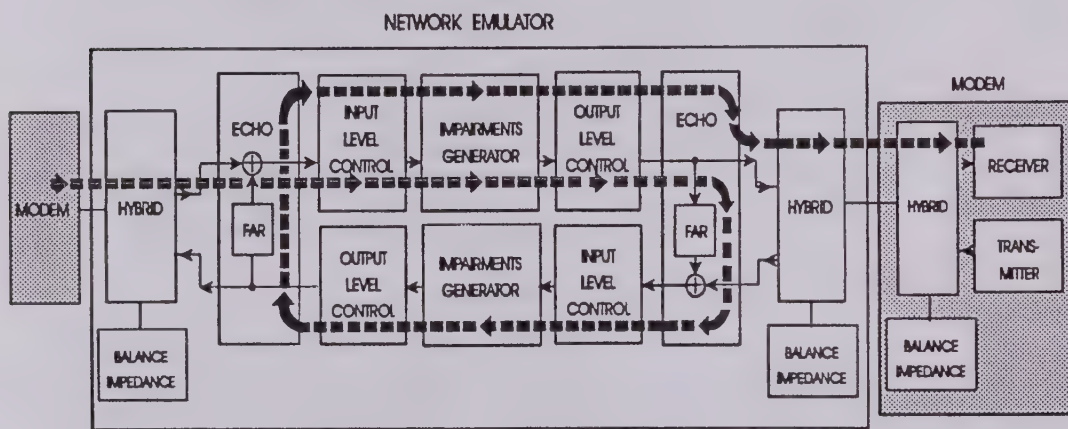

Figure 3.3.7.4-1. EIA/CCITT Listener Echo
The TAS 100 Series provides listener echo simulation for station A and station B. Station B (A) listener echo is the reflection of the modem B (A) receive signal. The simulation method used by the TAS 100 Series is the same as that specified in modem testing standards issued by the Electronic (Telecommunications) Industries Association (EIA/TIA) and CCITT. The simulation technique is illustrated in Figure 3.3.7.4-1, where the level of listener echo is controlled by the combination of the station A far echo attenuation and the station B far echo attenuation. The time delay of listener echo is determined by the satellite delay in the A→B and B→A directions.